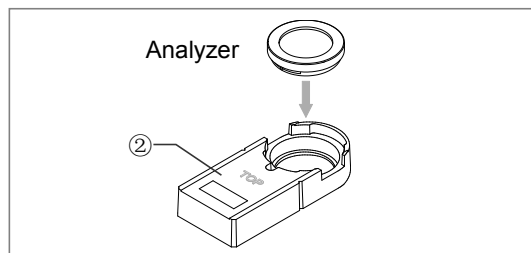

Fig.5-3
Take out the accessory module box ② from the stand and put in analyzer (Fig. 5-3), the putting back accessory box following Step 3. (Fig 3-8)